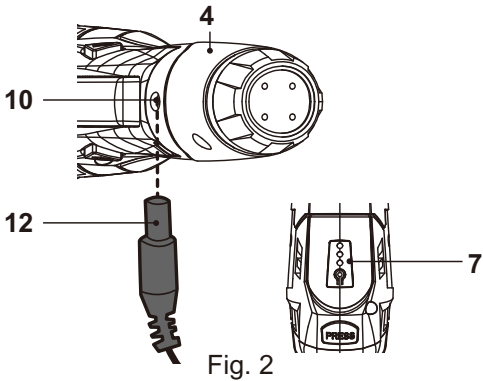

Fig. 2
- > Plug the charger jack (12) into the charging socket (10) on the handle (4) (Fig. 2).
- > Connect the charger (11) to the power supply.
- > The indicator light (7) shows the charging status.